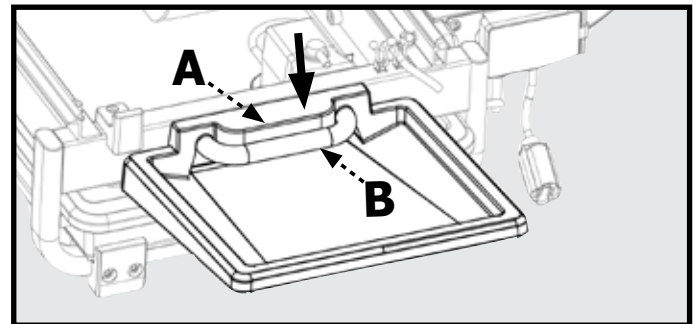

Figure 10
1. Attach the Lower Splash Tray (2) by sliding the tray onto the handle (B) and then pressing the tray down into the locking position as shown in Figure 10.
2. Attach the Upper Splash Tray (3) by fitting the cutout on the Upper Splash Tray onto the mounting tabs on the Work Table.